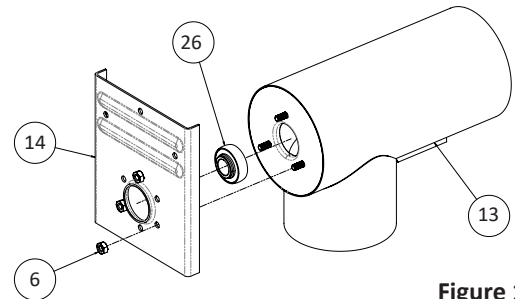

Figure 12
1. Note the orientation of the outside bearing retainer plate (Figure 12). Also note the direction the bearing is installed. The bearing fits into the socket eccentric side out and to the front. Do not tighten bolts completely - the bearing must be loose enough to allow alignment with the auger drive shaft in step 4.
2. Assemble auger brace using 5/16-18 X 1" and 5/16-18 X 1-1/2" bolts (Figure 12). Slide assembly onto discharge end of auger tube and secure. Attach auger to impeller assembly with coupling shaft using 1/4" x 1-1/2" hex bolts & 1/4" locknuts.